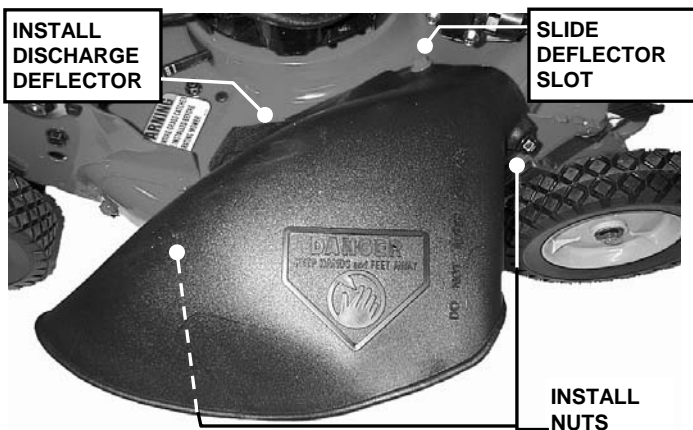

FIGURE 2.15
2. Install discharge deflector and secure to deck using hardware just removed in Step 1. Slot in front edge of discharge deflector must be under nut as shown and both bolts protruding through holes in the side of the deflector. Secure nuts to the side of deflector. Tighten nuts securely. See Figure 2.15.